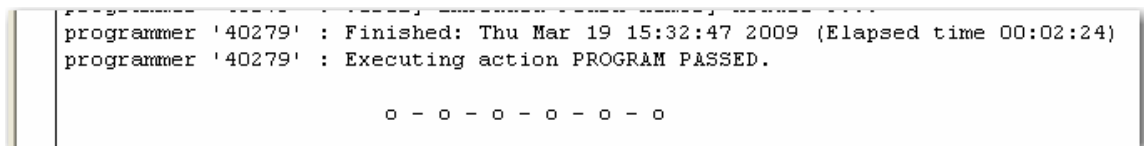

Figure 2-7 · Programming Completed
5. Click the **Program** button. FlashPro will erase, program, and verify the FPGA and the Embedded Flash Memory Module. Do not disturb power during the erase or program process as this could potentially damage the device. FlashPro will indicate that the programming process has completed by printing a “PROGRAM PASSED” message in the FlashPro console window (Figure 2-7).